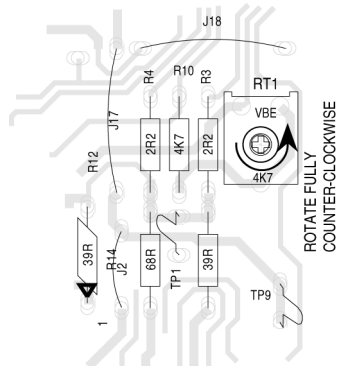

Figure 2
4. Rotate the trim pot RT1 fully counter - clockwise as in figure 2. Inspect and replace any resistors that look burnt. Measure all of the resistor values coloured YELLOW on the assembly drawing. The value that you measure may not be exactly what is shown on the assembly drawing but if the resistor doesn't look damaged it should measure within + or – 5% of the printed value.